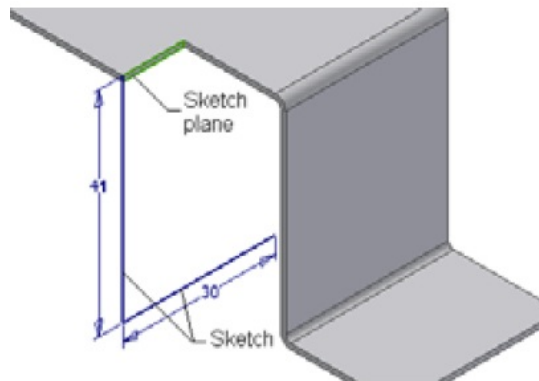

Figure 15-98 The sketch plane and the sketch for the contour flange
1. Define a new sketch plane on the planar face of the base feature and then create the sketch for the contour flange, as shown in Figure 15-98.